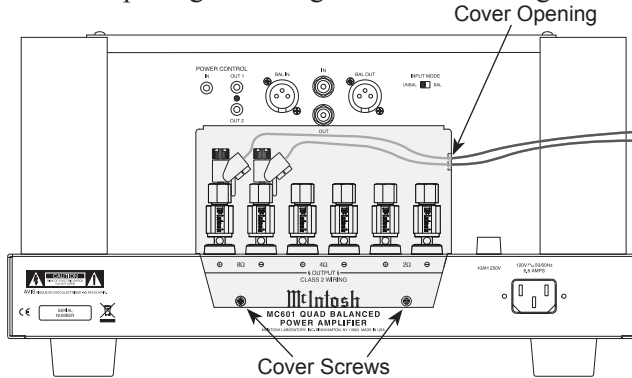

Figure 5 (Inside USA and Canada)
5. Locate the Terminal Connections Cover from the inside of the MC601 shipping carton. Insert the just prepared Loudspeaker hookup cables thru the cover opening on the right side. Refer to figure 5.
*Note: The illustration in figure 5 is connections for 8Ω (ohms) Loudspeakers.*
9. Attach the Terminal Connections Cover to the MC601 Rear Panel with the previously removed Screws. Refer to figure 5.